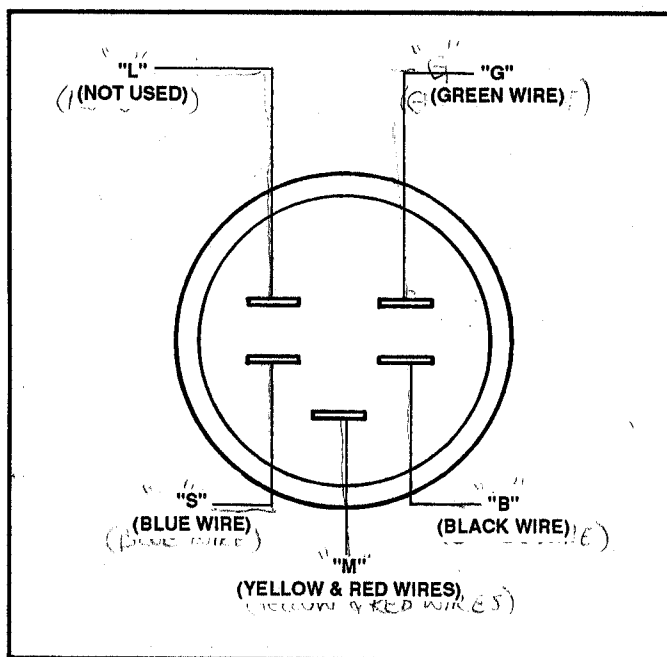

FIGURE 6.4
1. Before testing, be certain of the function of each terminal. See Figure 6.4.